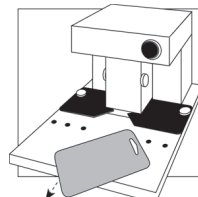

Fig. 6
- 4 - Rotate card and repeat to round all four corners of card. [Figure 6]